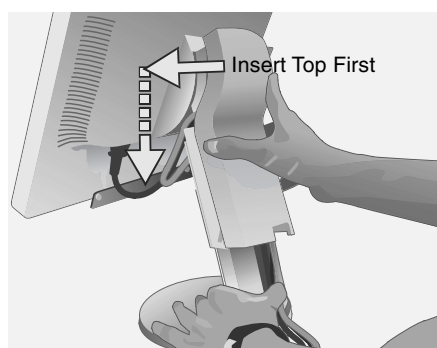
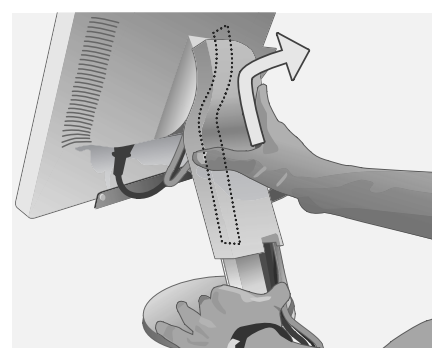

Figure D.1
Figure D.2
9. Hold the all cables firmly and place the cable cover onto the stand (Figure D.1). To remove the cable cover, lift the cover off as shown in Figure D.2.